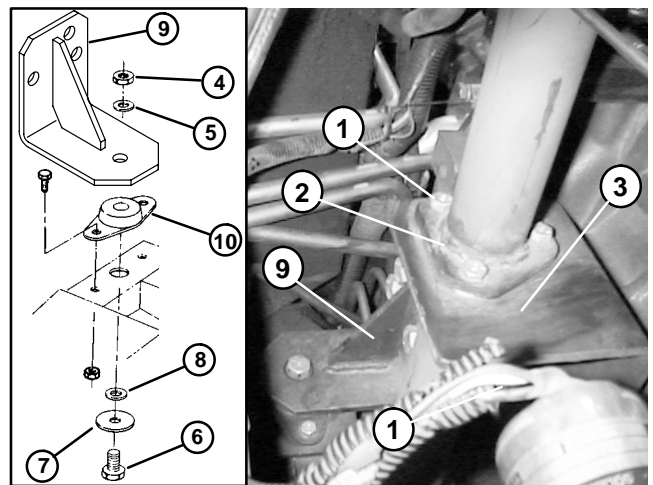

Figure 26
13. Remove three lock nuts and cap screws securing the upper exhaust tube to the exhaust bracket (Fig. 26).
14. Remove hex nut, spring washer, cap screw, and flat washers securing both front brackets to the engine mounts (Fig. 26).
17. Remove engine slowly from the machine. Save gasket for exhaust tube (Fig. 26).
B. Place gasket onto exhaust bracket to receive exhaust tube (Fig. 26).
2. Secure both front brackets to the engine mounts with cap screw, flat washers, spring washer, and hex nu. Torque cap screw and hex nut from 59 to 73 ft–lb (8.2 to 10.1 kg–m)t (Fig. 26).
4. Secure exhaust tube and gasket to the exhaust bracket with three cap screws and lock nuts (Fig. 26).